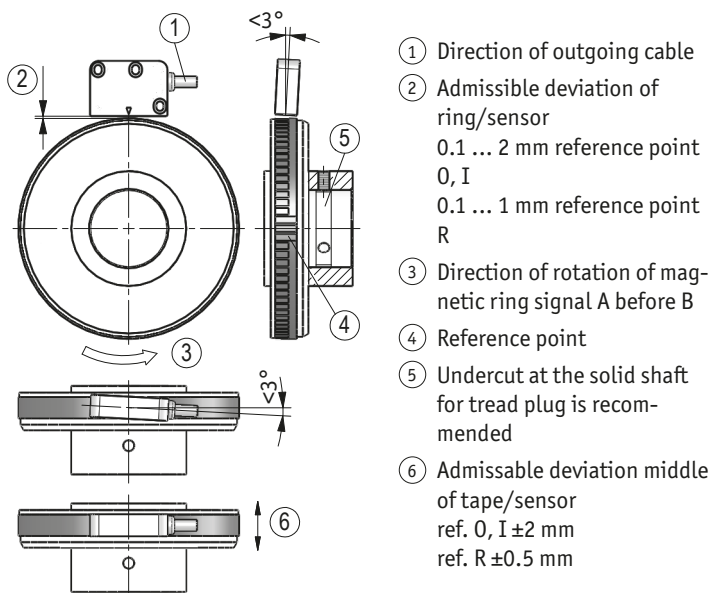
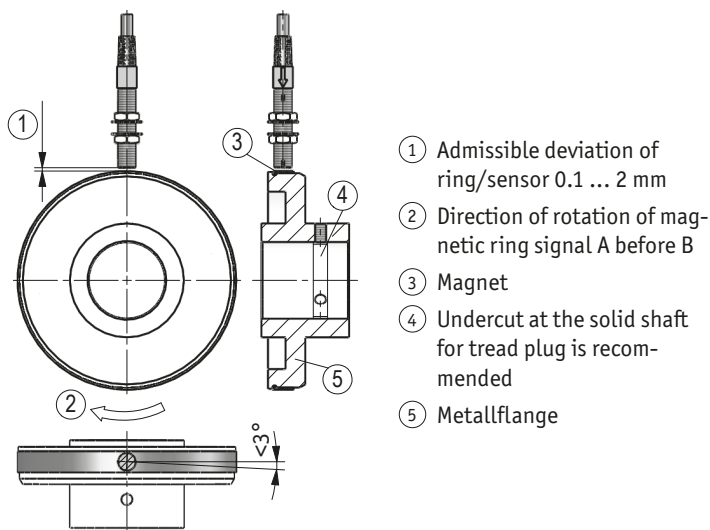

Fig. 9: Definition of the counting direction with magnetic ring and assemblage sensor/magnetic ring, gap measure, tolerances
Fig. 10: Definition of the counting direction with magnetic ring and assemblage sensor/magnetic ring, gap measure, tolerances
3. Provide for a relief groove in the solid shaft (see Fig. 9, Fig. 10).